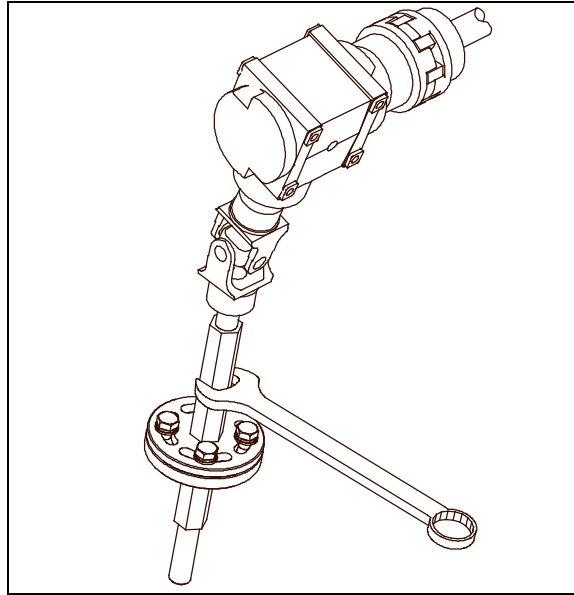

FIGURE 7
7. Operate the slide-out and check if the exterior panels of the slide-out are parallel with the vehicle panels. If not, rotate the upper part of the adjustable shaft assembly as required to obtain proper alignment (refer to figure 7).